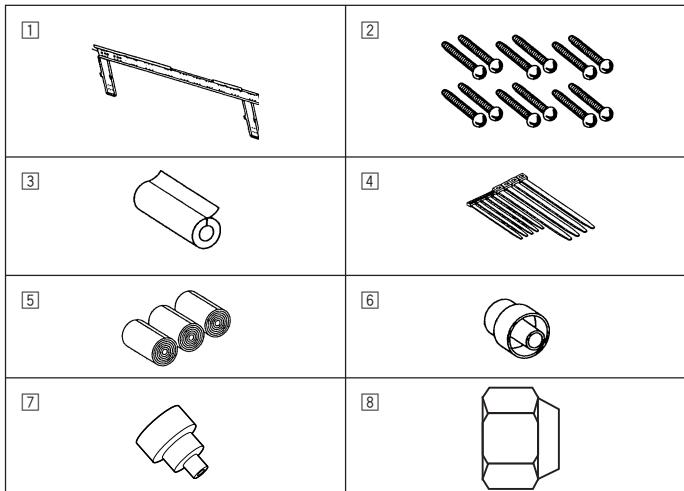

Fig. 3-3
①	Mount board	1	Fix at the back of the unit Set inside the unit
②	Tapping screw 4 x 35	12
③	Pipe cover	1
④	Band	5
⑤	Felt tape	3
⑥	Joint pipe	1
⑦	Mount piece	1
■ PKFY-P18/P24/P30NFMU-E (Fig. 3-3)